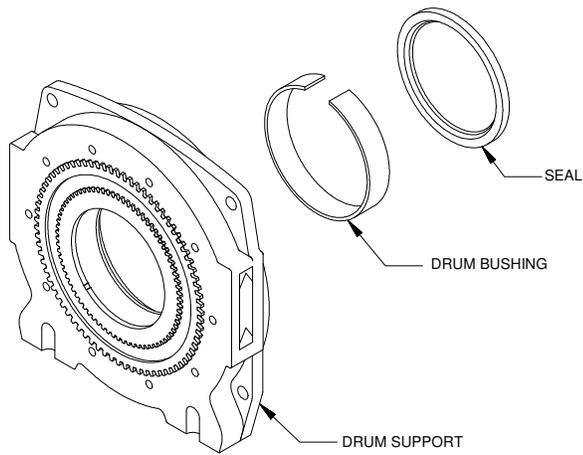

Figure 2.5
6. Remove the split plastic drum bushing and carefully pry out the drum shaft seal (*Figure 2.5*).
1. Press a new seal into the drum support (*Figure 2.5*). Install the split plastic drum bushing.